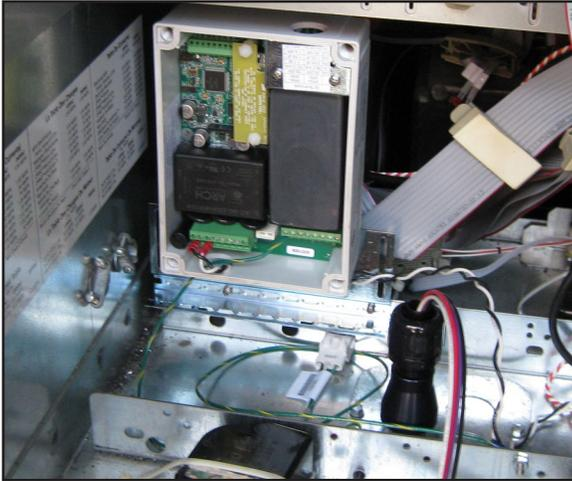

Figure 10: Reducer Installed
24. Find straight conduit fitting from IS wiring kit 020-1513. From electrical enclosure, pull wires from the potted nipple assembly through opening of straight conduit fitting. Attach straight conduit fitting onto the reducer. Refer to Figure 10.